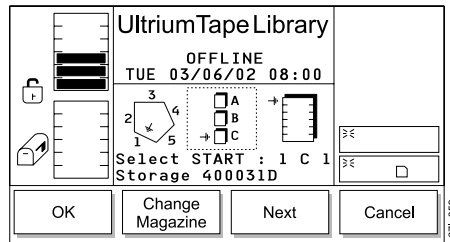

Figure 153. Change Magazine Dialog
- a. Press the button below the **Change Column** softkey until the arrow in the left icon points to the column that you want. Press the button below the **Next** softkey. The Change Magazine Dialog displays (see Figure 153 on page 135).